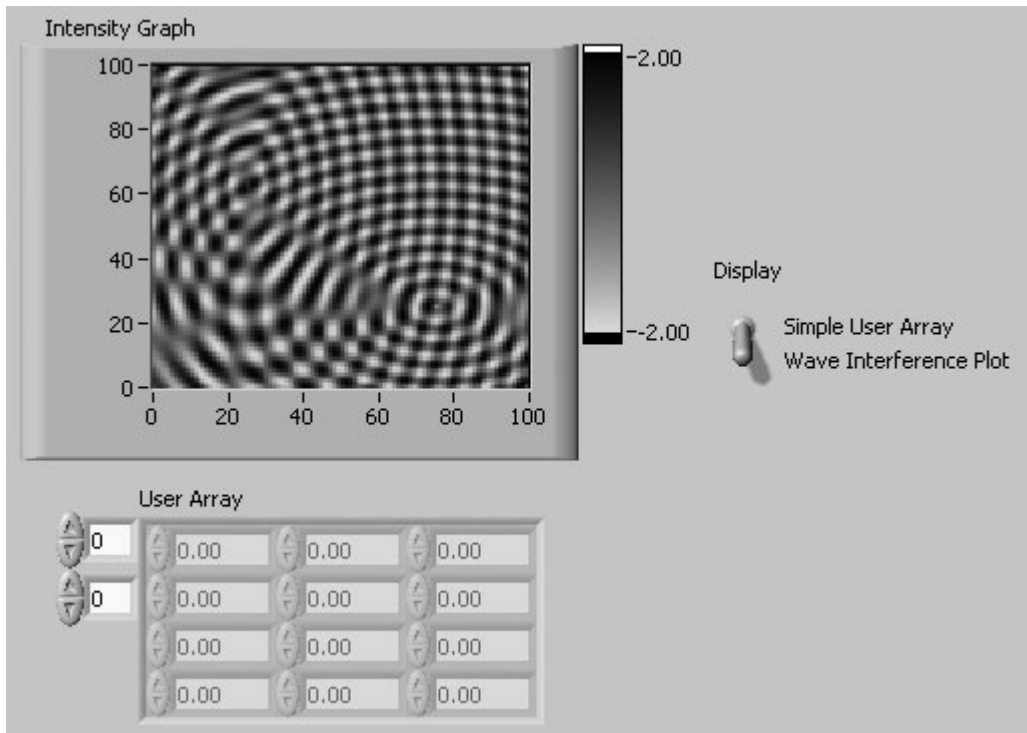

Figure 8.51
1. To get an idea of how intensity graphs and charts work, open the **Intensity Graph Example VI**, located in the `EVERYONE\CH8` directory. Run the VI. You will see an intricate interference waveform plotted on the graph (see Figure 8.51). The color range is defined in the block diagram using the